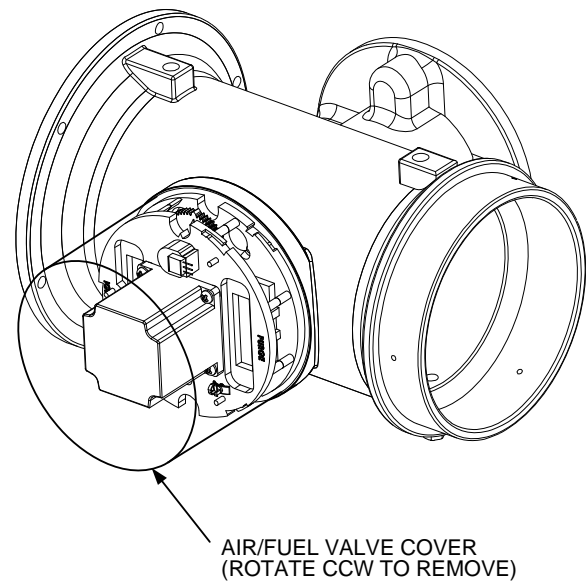

Figure 6-5
2. Remove the Air/Fuel Valve cover by rotating the cover counterclockwise to unlock it and then lift up (see Figure 6-5).
3. Remove the Air/Fuel Valve cover (Figure 6-5) by rotating the cover counterclockwise to unlock and lift up to remove.